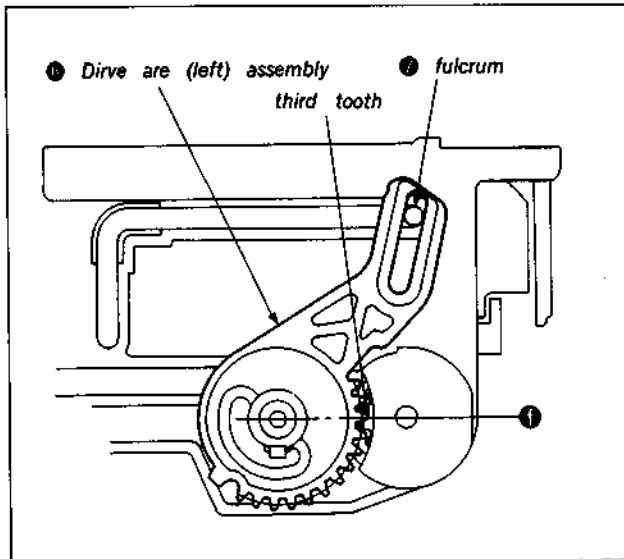

Fig. 3-14-B. Adjustment method of position (phase) matching of left gear wheel
- 1) Install the drive arm (left) assembly ⑤ to that the third tooth of the drive arm (left) assembly becomes into a straight line ① with the shaft of the drive arm assembly ⑥ and middle gear when fulcrum ⑦ is in Fig. 3-14-A position, the third gear of the drive arm (left) assembly automatically becomes into a straight line ①.
[Checking Method When Phase is in Matched State] (Fig. 3-14-C)